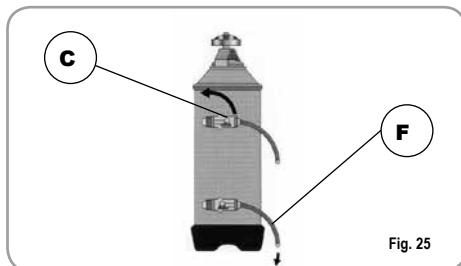

Fig. 25
2) Put the cap back on and reposition lever C moving it towards the left (Fig. 25), and allowing tube F to discharge the salty water until it has been eliminated and the water becomes fresh again (about half an hour).